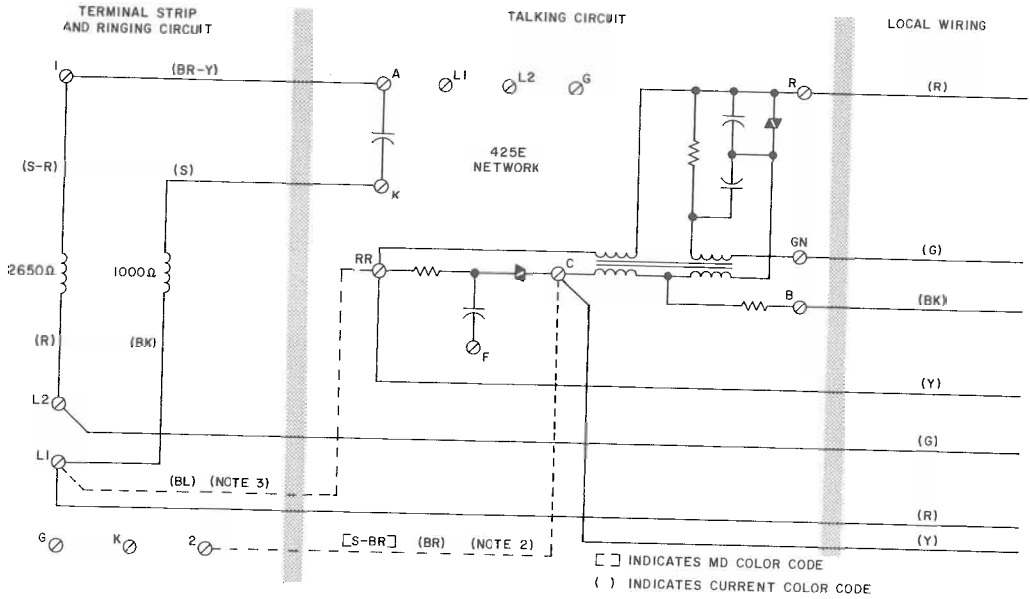

Fig. 2 — Circuit Diagram for Connections with Prepay TOUCH-TONE Dial Coin Collectors
- 2.02 See Fig. 2 and Table B for circuit diagram and connections for prepay TOUCH-TONE® dial coin collectors.